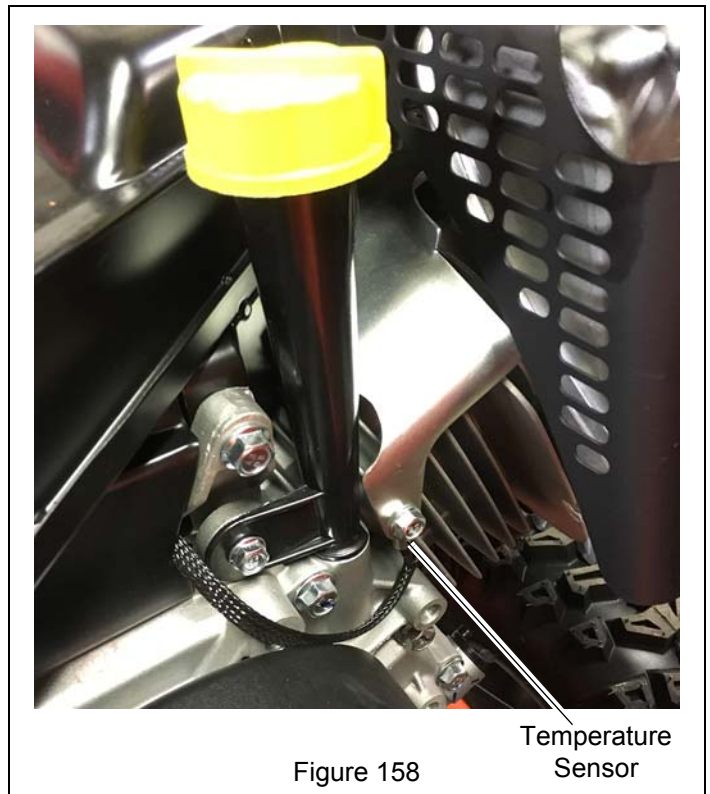

Figure 158
2. Check the temperature sensor wiring from the throttle body to the mounting boss on the side of the cylinder. Make sure connection is secure. See Figure 158.